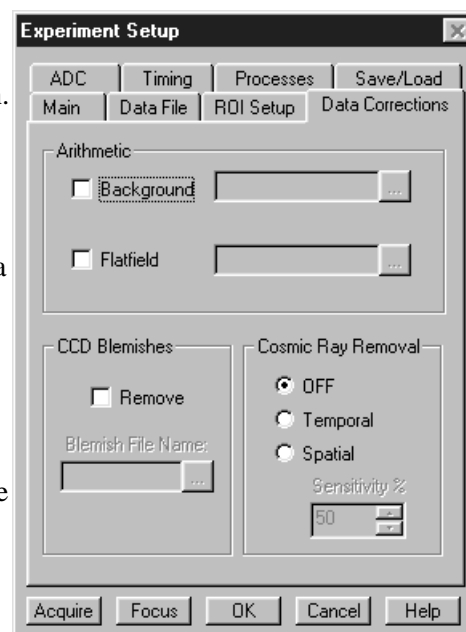

Figure 121. Data Corrections tab page
To acquire a background with the shutter open, or if the Acquire Background feature is too restrictive in some other way, a background file can be collected as a normal data file. Once the file is collected and stored, enter the filename in the Background Subtract filename box on the Experiment Setup Data Corrections tab page (see Figure 121).
2. Click on the Data Corrections tab. The Data Corrections tab page will be selected (Figure 121).
If the Acquire Flatfield feature is found to be too limiting in some way, a flatfield file can be collected as a normal data file. Once the file is collected, enter the filename in the Flatfield Correction filename box on the Experiment Setup Data Corrections tab page see (Figure 121).
2. Click on the Data Corrections tab to select the Data Corrections tab page (Figure 121).